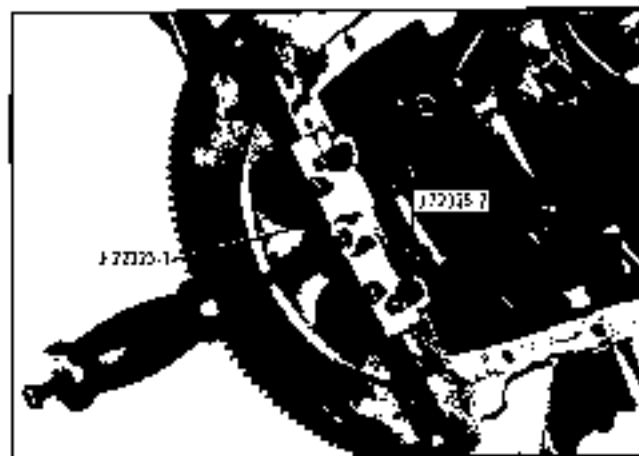

Fig. 6-44 Removing Rear Main Bearing Cap
2. Remove rear bearing cap using J 22325 (Fig. 6-44).
7. Install bearing cap using J 22325 (Fig. 6-44) and torque bearing cap bolts 100 lb. ft.